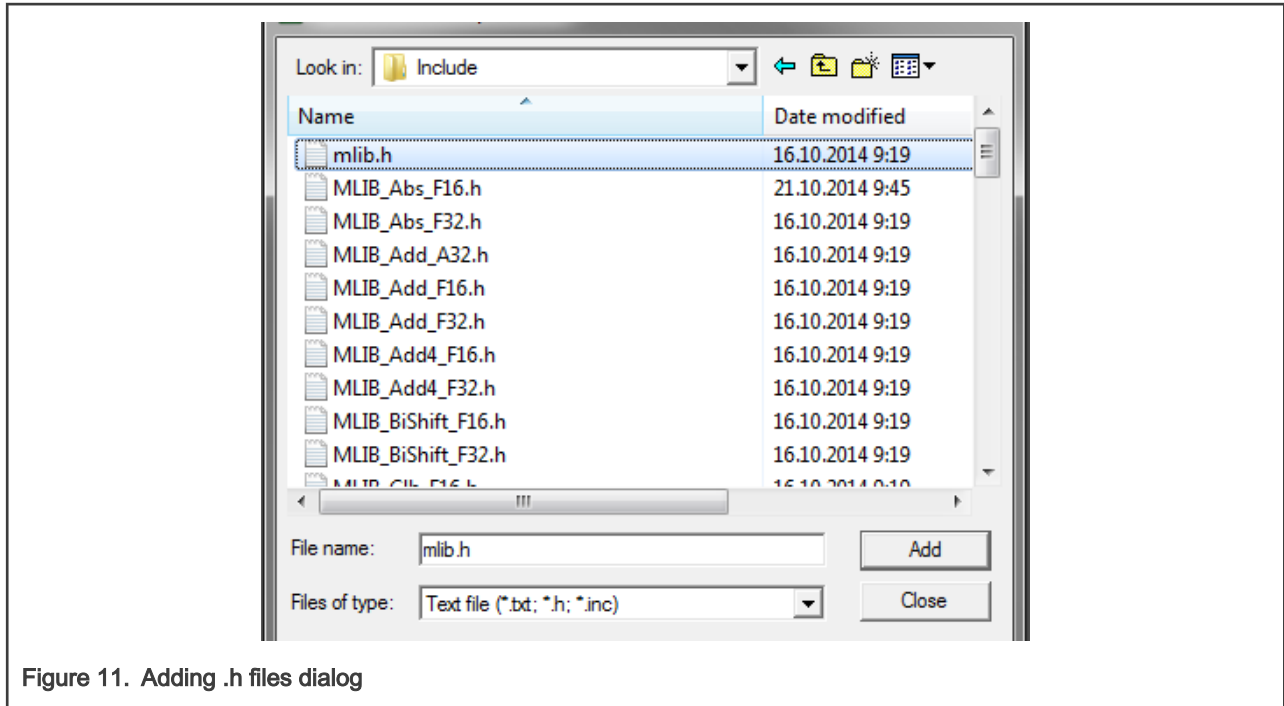

Figure 11. Adding .h files dialog
4. Navigate into the library installation folder C:\NXP\RTCESL\CM4_RTCESL_4.7_KEIL\MLIB\Include, and select the *mlib.h* file. If the file does not appear, set the Files of type filter to Text file. Click Add. See Figure 11.